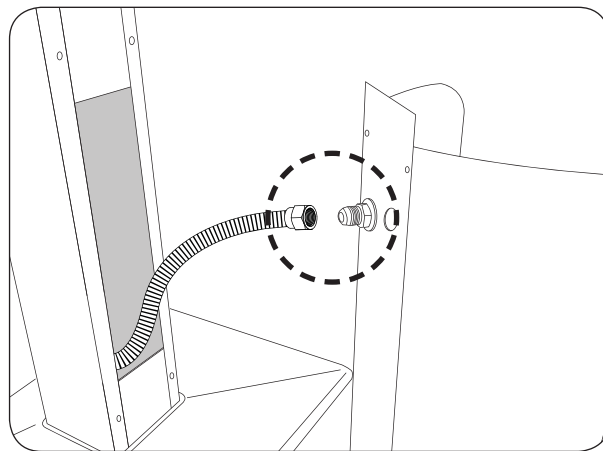

Fig. 2-1 Connect flex connector
2. Connect the flex connector (coming out of the post) to the adapter found on the rear of the tank shield. Be sure to tighten completely and not to kink the flex connector (Fig. 2-1).